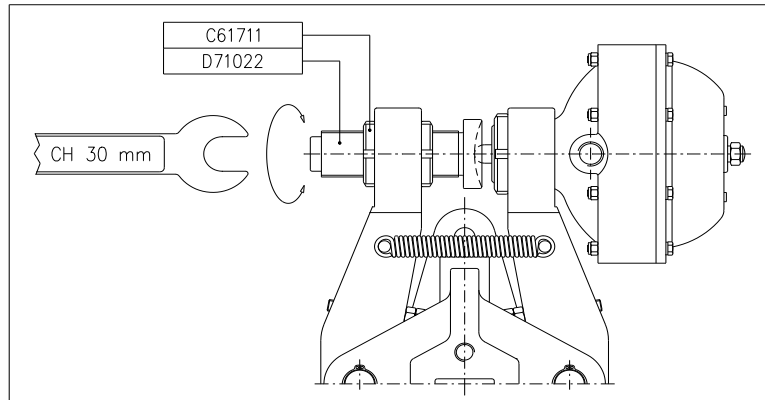

Figure 2
5. Adjust the play between the brake linings and the disc using the play adjuster D71022 (D71076 if with ON/OFF) and a n. 30 Allen key, rotating in the appropriate direction the play adjuster (Figure 2); when a play of 1 mm (with disc of thickness 25.4 mm) or 1.5 mm (with disc of thickness 40 mm) has been obtained between the disc and each brake lining, lock the adjuster in position screwing the ring nuts C61711 all the way down.
3. Rotate the play adjuster clockwise until the optimal play is obtained between the disc and each brake lining (Figure 2). See point 5 of Chapter 7 in order to have the optimal play.